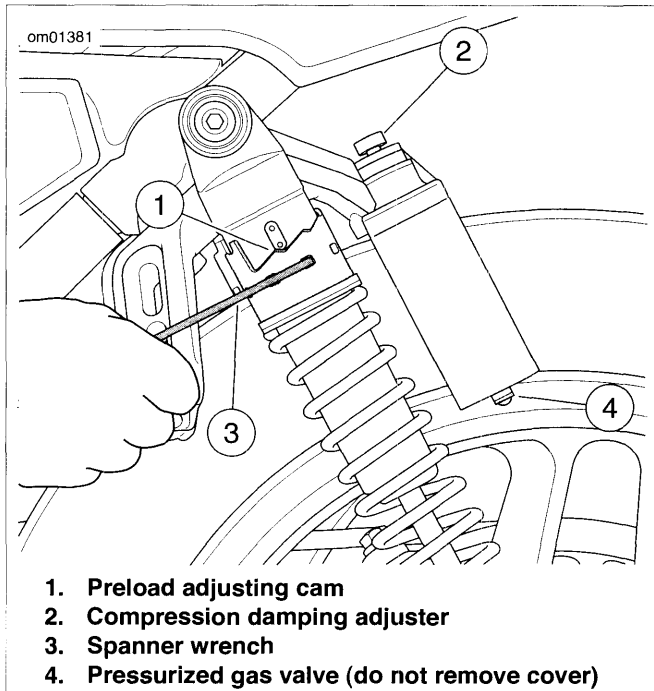
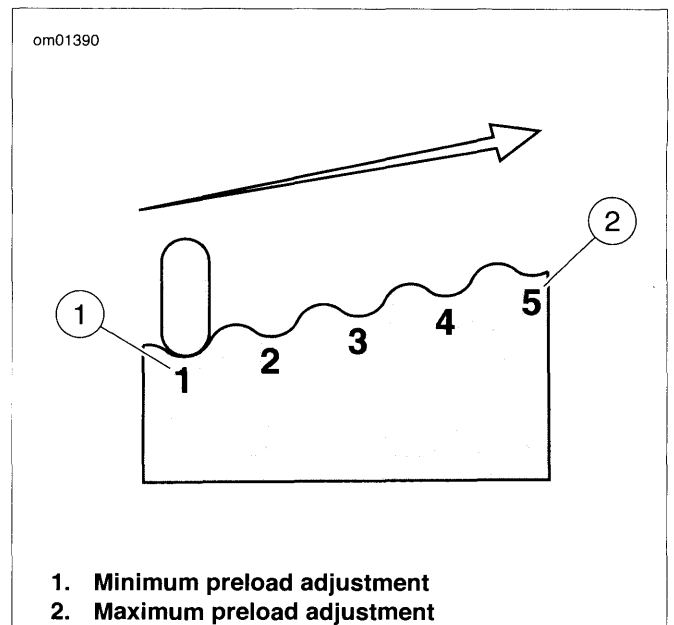

Figure 1-77. Shock Absorber Preload and Compression Damping Adjusters: XR 1200X
Figure 1-79. Shock Absorber Preload Adjustment: XR 1200X
1. See Figure 1-77 and Figure 1-79. Using SPANNER WRENCH (Part No. C2050.1AM) (provided in the owner's tool kit), turn the spring adjusting cam to the recommended position as specified in Table 1-18.
1. See Figure 1-77. Using fingers, turn the compression adjuster clockwise until it stops. This is the maximum compression damping setting.